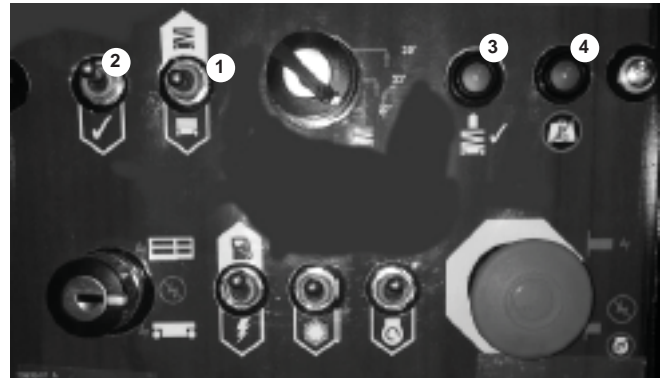

Figure 8.5
2. To raise the platform, press and hold the platform lift / lower switch (1) up whilst holding the enable switch (2) down (see figure 8.5).
3. To lower the platform, press and hold the platform lift / lower switch (1) down whilst holding the enable switch (2) down (see figure 8.5).